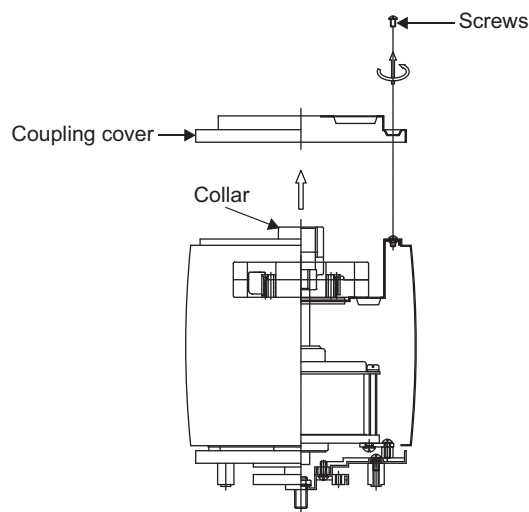

Fig. 7
Step 5. Remove the coupling cover from the motor housing by removing the two screws from the rim of coupling cover. (Fig. 7)